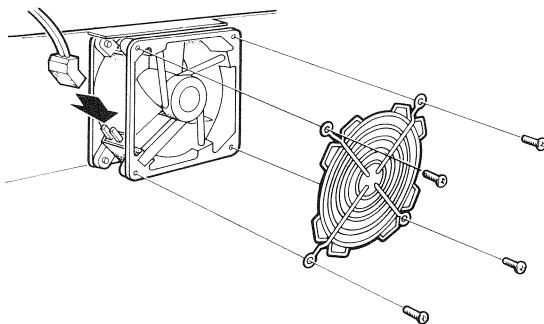

Figure 8-29 Front Fan Power Cable and Fan Guard Connection
1. Remove the power cable and fan guard (if present) from the intake side of the old fan and fit them to the replacement fan (Figure 8-29).
The front fan power cable is not keyed. Observe the polarity of the connector. The curve of the connector must match the curve of the fan housing as shown in Figure 8-29.